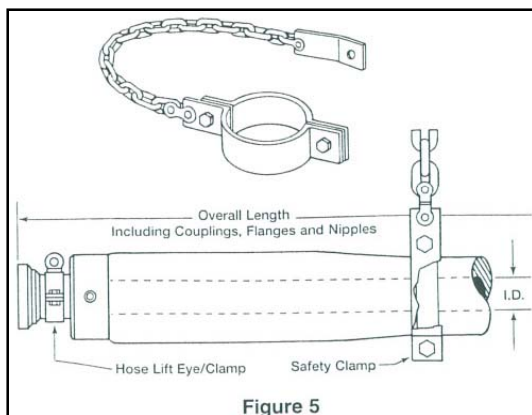

Figure 5
F. Safety Clamps (see Figure 5)
- A set of safety clamps can be obtained on special order. The location for attaching these safety clamps is shown by marks at each end of the assembly. Lift eye/clamps are also available. Do not use the safety clamp or chain for lifting (see Figure 5).